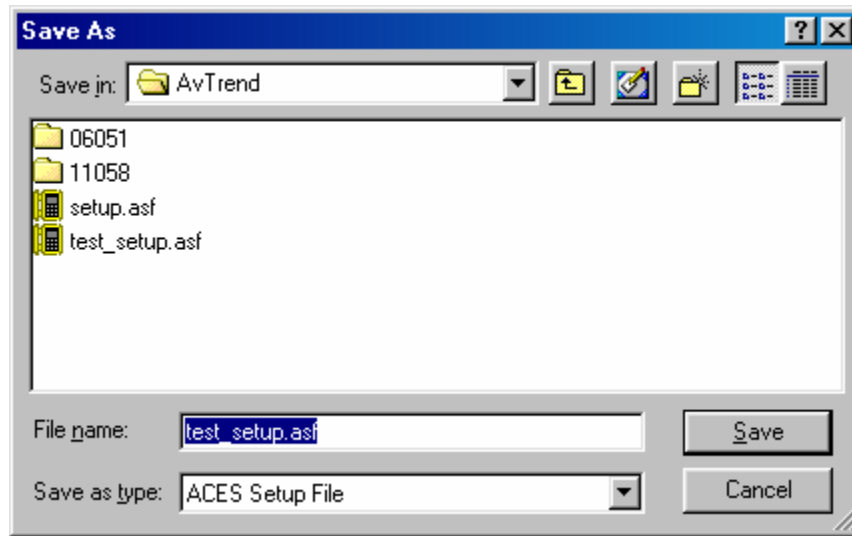

Figure 36: Save As dialog box generated when you export a sensor as a setup file
3. Select Export, then select Setup File. AvTrend generates the Save As dialog box; the Save as type text field indicates AvTrend will save the file as an ACES Setup File (see Figure 36 above).